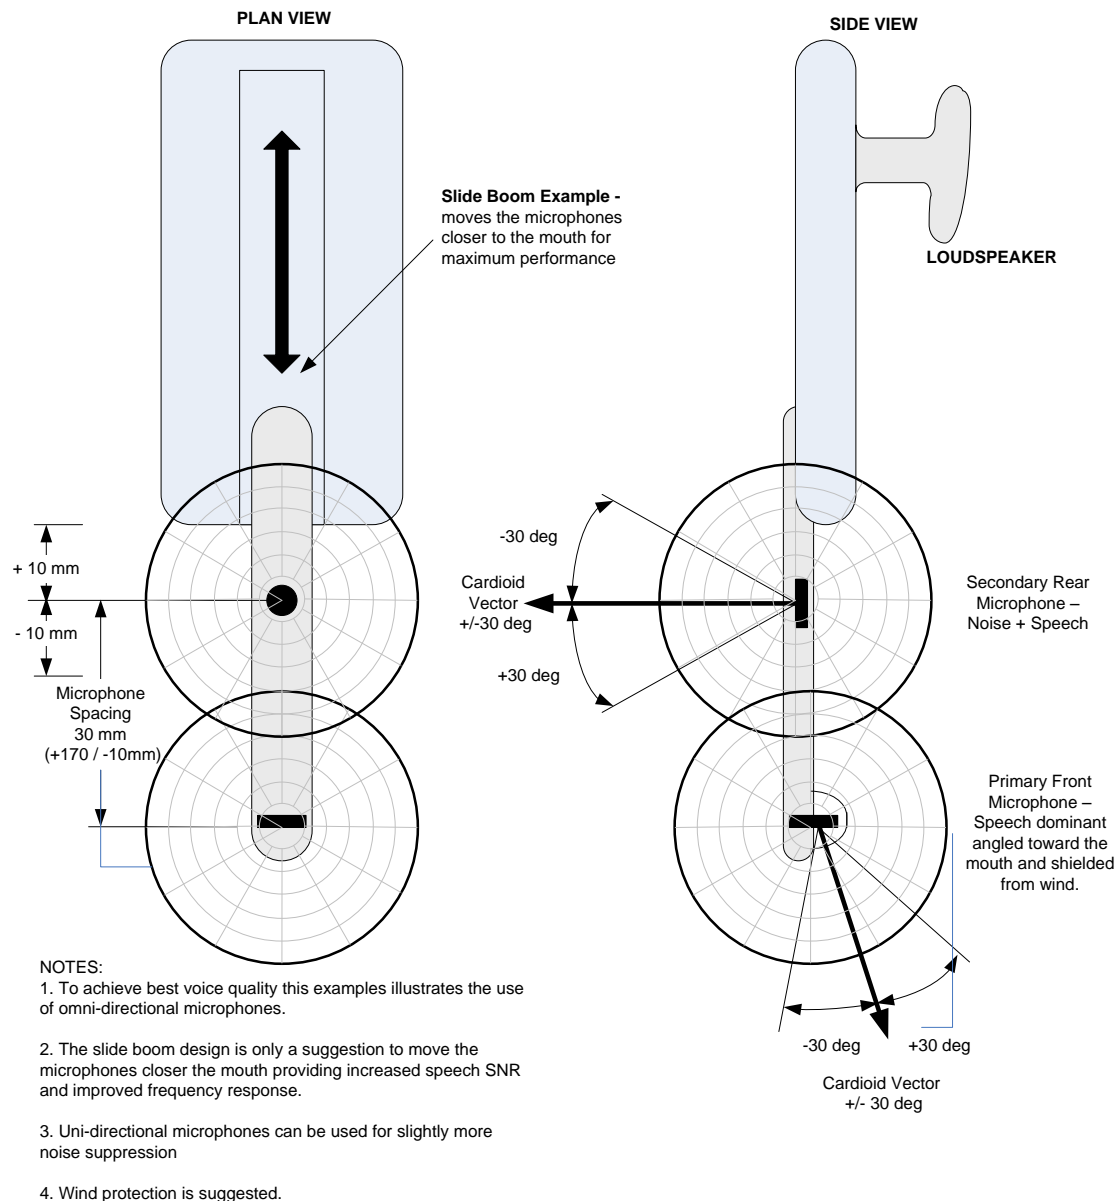
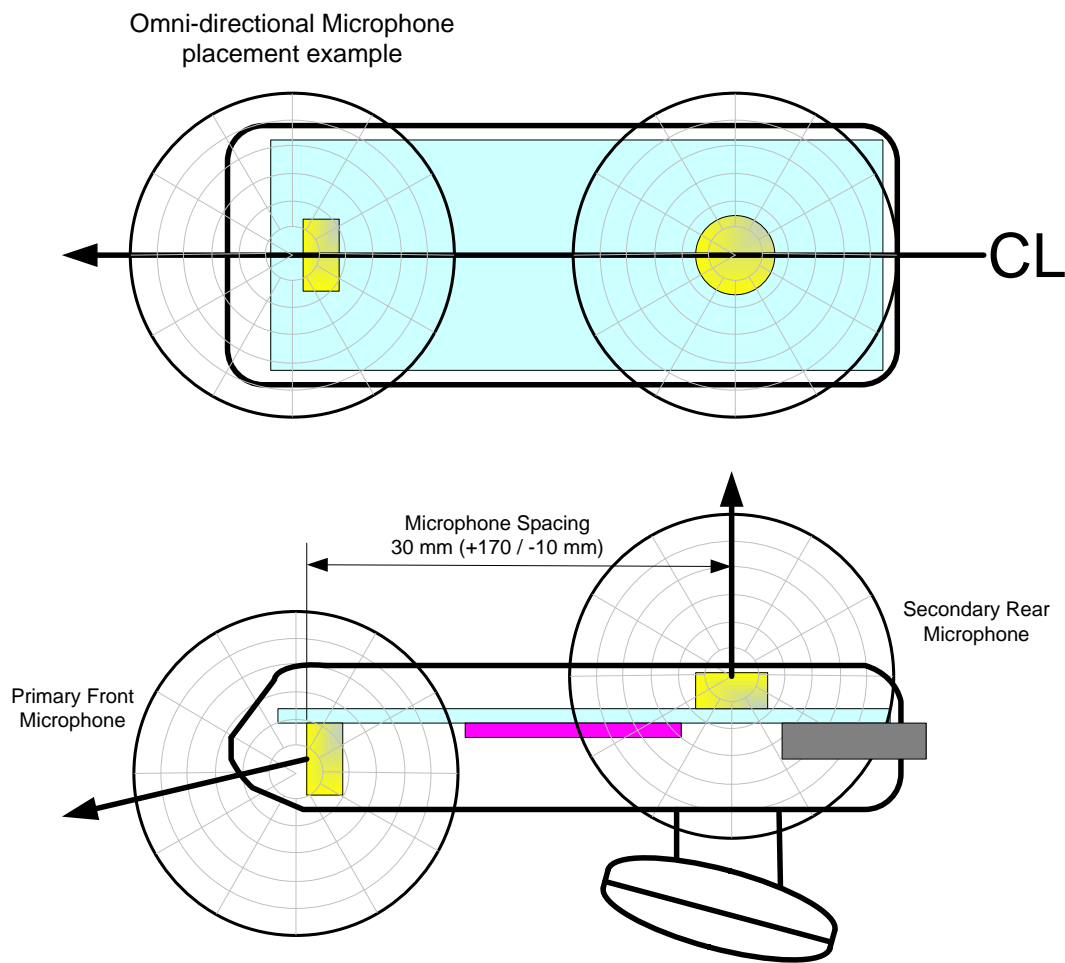

Figure 2.1: Microphone Configuration for Sliding Boom Headsets
Figure 2.2: Fixed Microphone Configuration
Figure 2.1 applies to a *sliding boom* headset and Figure 2.2 applies to a fixed microphone configuration headset.
5. Minimise the front microphone-to-mouth distance as conceptually illustrated in Figure 2.1